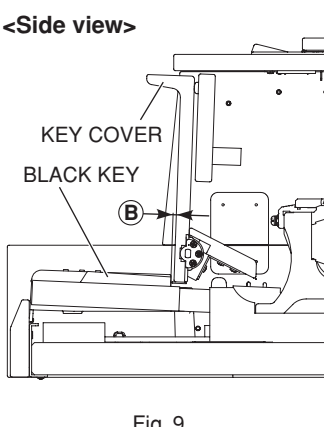

Fig. 9
Standard 1 Make sure that with the key cover opened the gap between the back of the black keys and the front surface of the key cover is within standard. (Fig. 9)
3.3 mm +1.7 mm/-1.3 mm, difference on the left and right within 1 mm (Fig. 9)